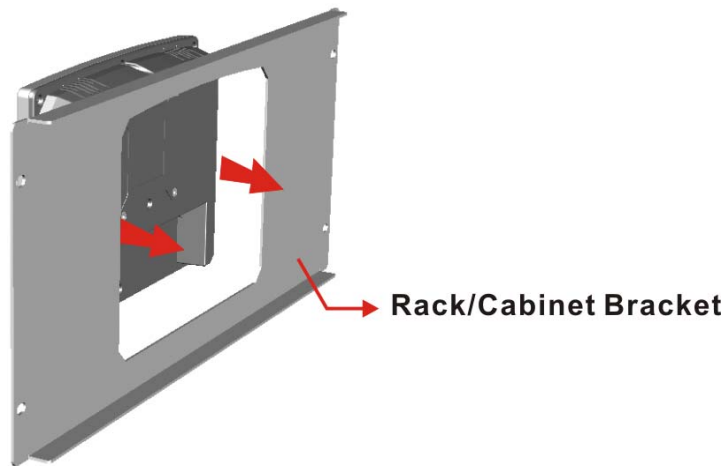

Figure 3-17: Rack/Cabinet Bracket Installation
- Step 1:** Slide the rear chassis of the AFL3-08A-BT panel PC through the rack/cabinet bracket until the frame is flush against the front of the bracket (**Figure 3-17**).